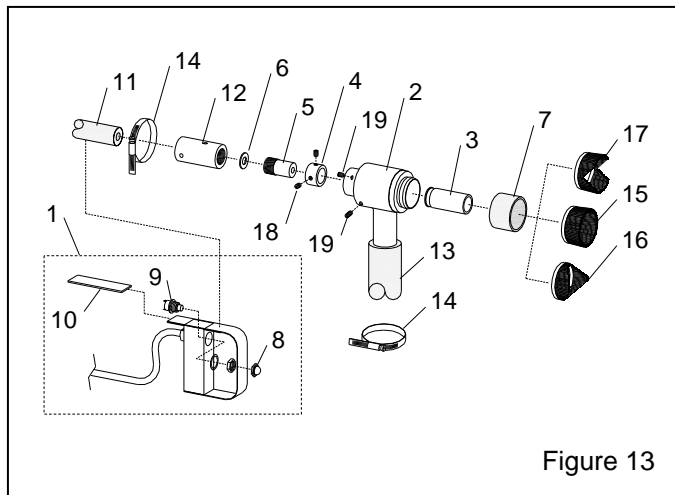

Figure 13
**8.3 Blast Head and Control Assembly, Figure 13**